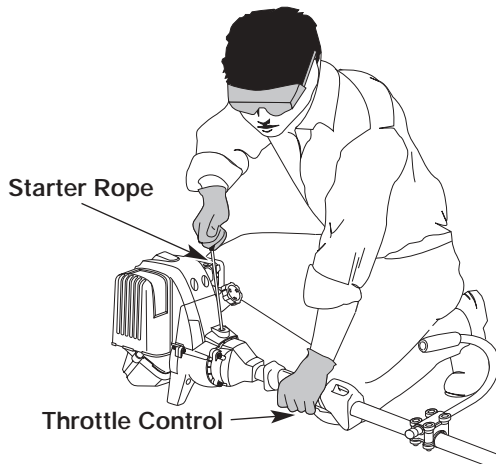

Fig. 10
- With the unit in the starting position (Fig. 10) pull the starter rope briskly 5 times in the **FULL** choke (A) |←| position. If the engine attempts to run before the fifth pull, proceed to step 8.
- With the unit in the starting position (Fig. 10), pull the starter rope briskly until the engine starts.
- When the engine starts, move the choke lever to the **RUN** (C) |↑| position, and run at full throttle for 30 seconds, and up to one (1) minute in temperatures below 40°F (4°C).
- Release your hand from the throttle control (Fig. 10). Allow the engine to idle.